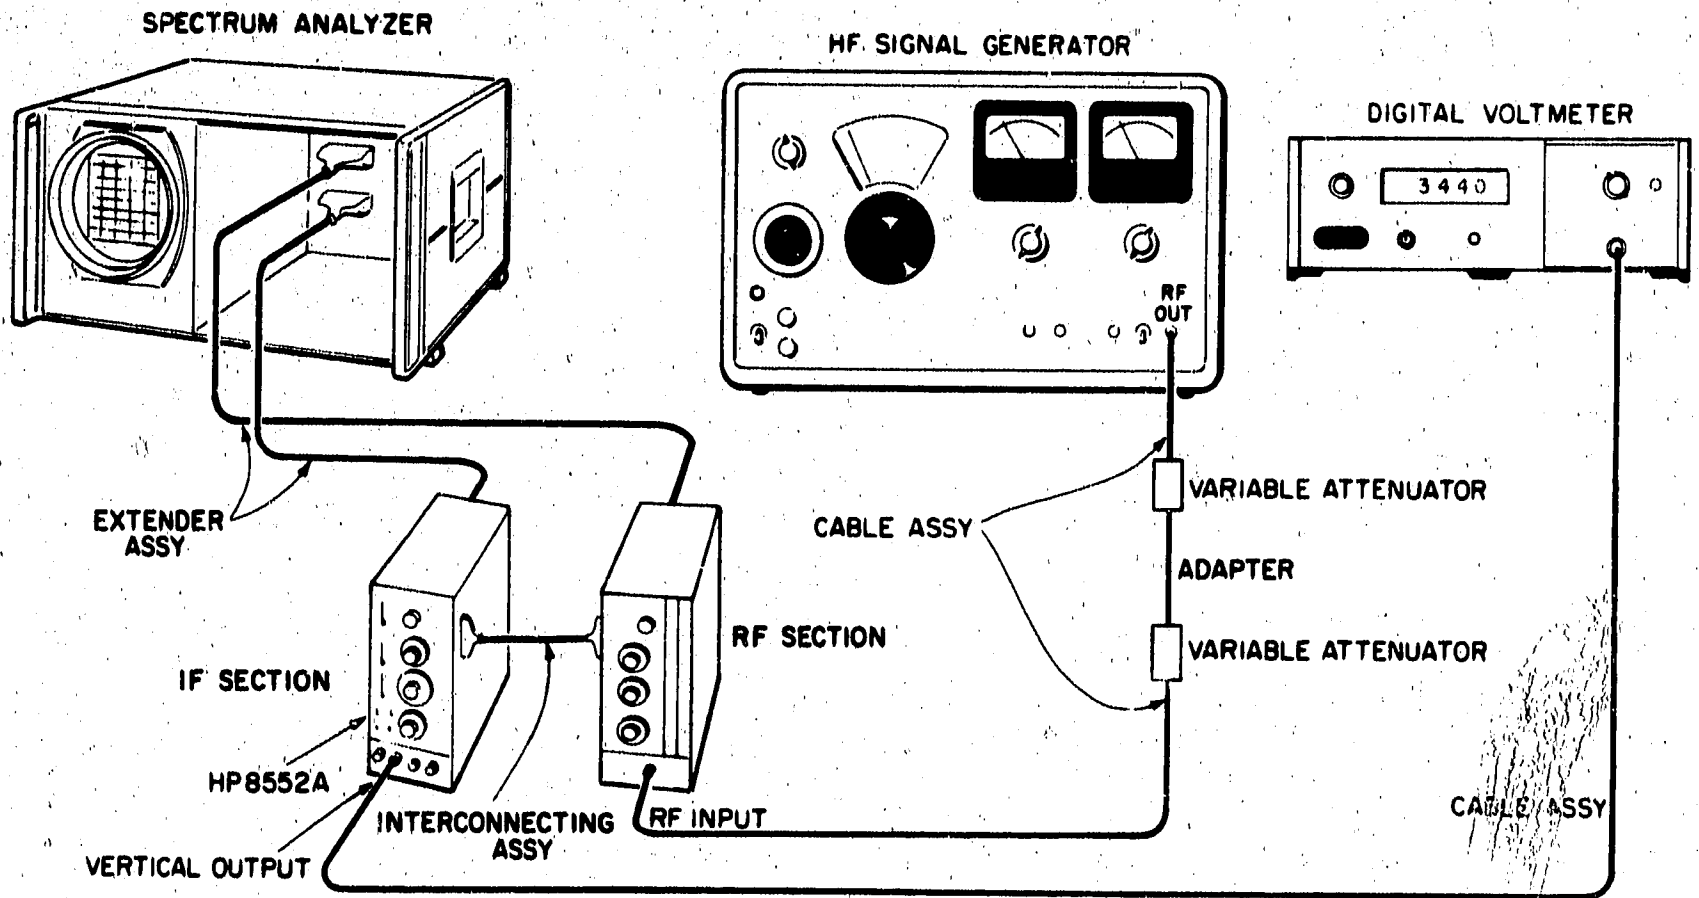

Figure 5-12. 3 MHz IF Gain Adjustments Test Setup
1. Connect the test setup shown in Figure 5-12 and make the following control settings: